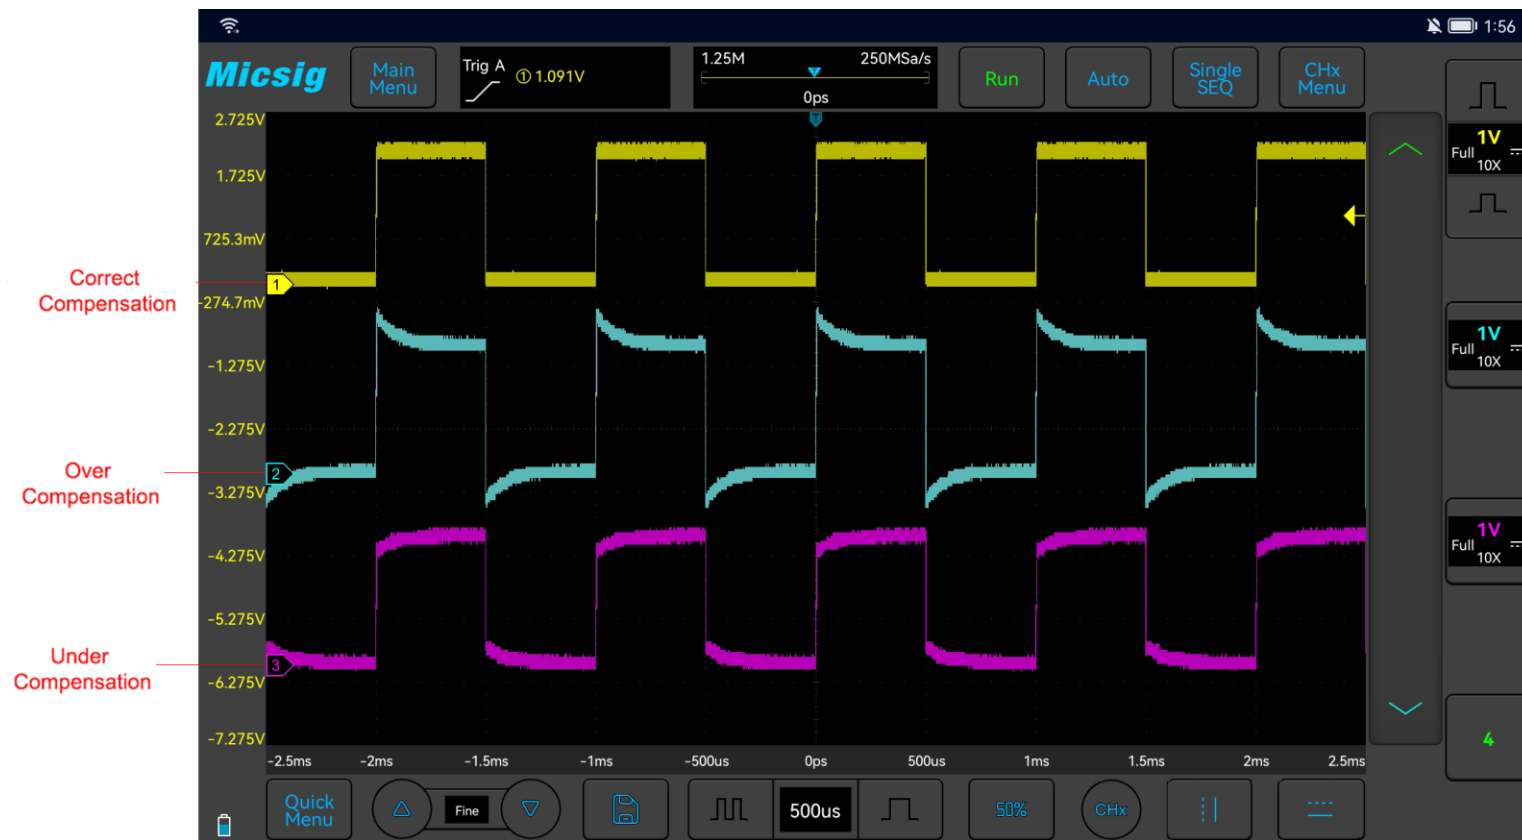

Figure 2-11 Probe Compensation
- 5) Tap  button or manually adjust the waveform vertical sensitivity and horizontal time base. Observe the shape of the waveform, see Figure 2-11.